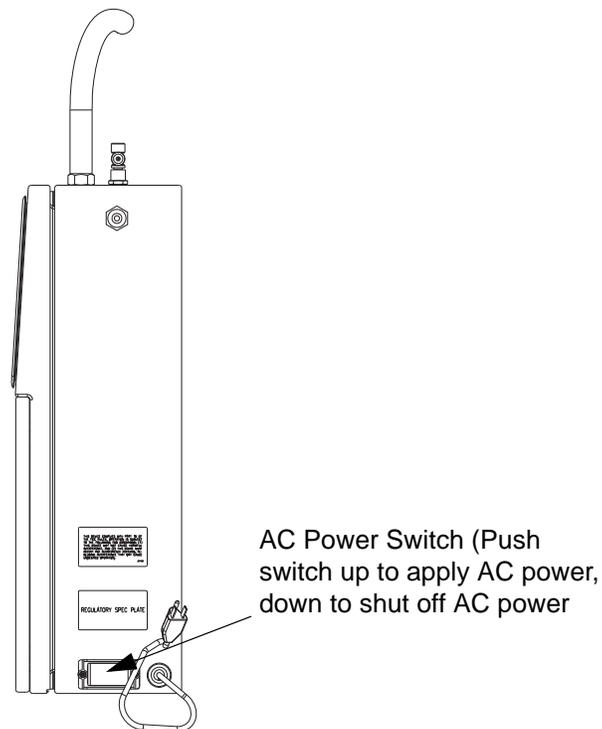

Figure 4-1: Main AC Power Switch
- 1 Turn the main AC power switch On. The AC power switch is found in the printer cabinet (refer to Figure 4-1).